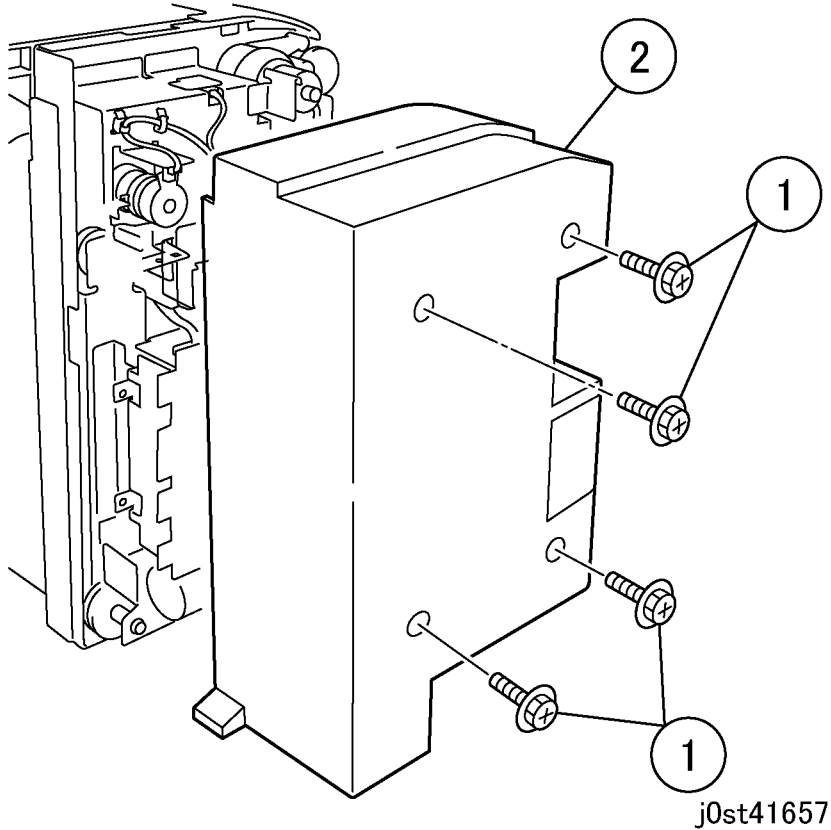

Figure 3 Removing the Rear Cover (j0st41657)
3. Remove the Rear Cover. (Figure 3)